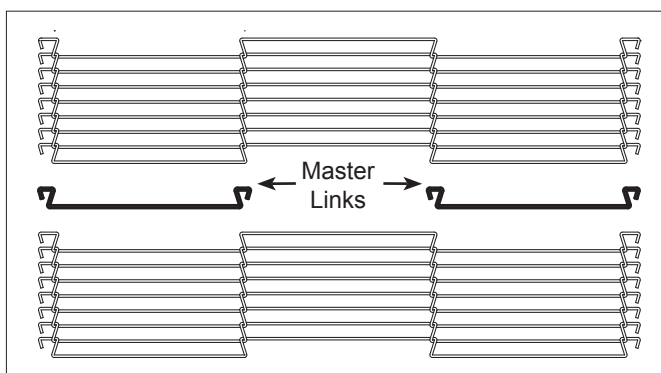

Figure 12. Conveyor Belt Chain
4. Locate the two Master Links (Figure 12).